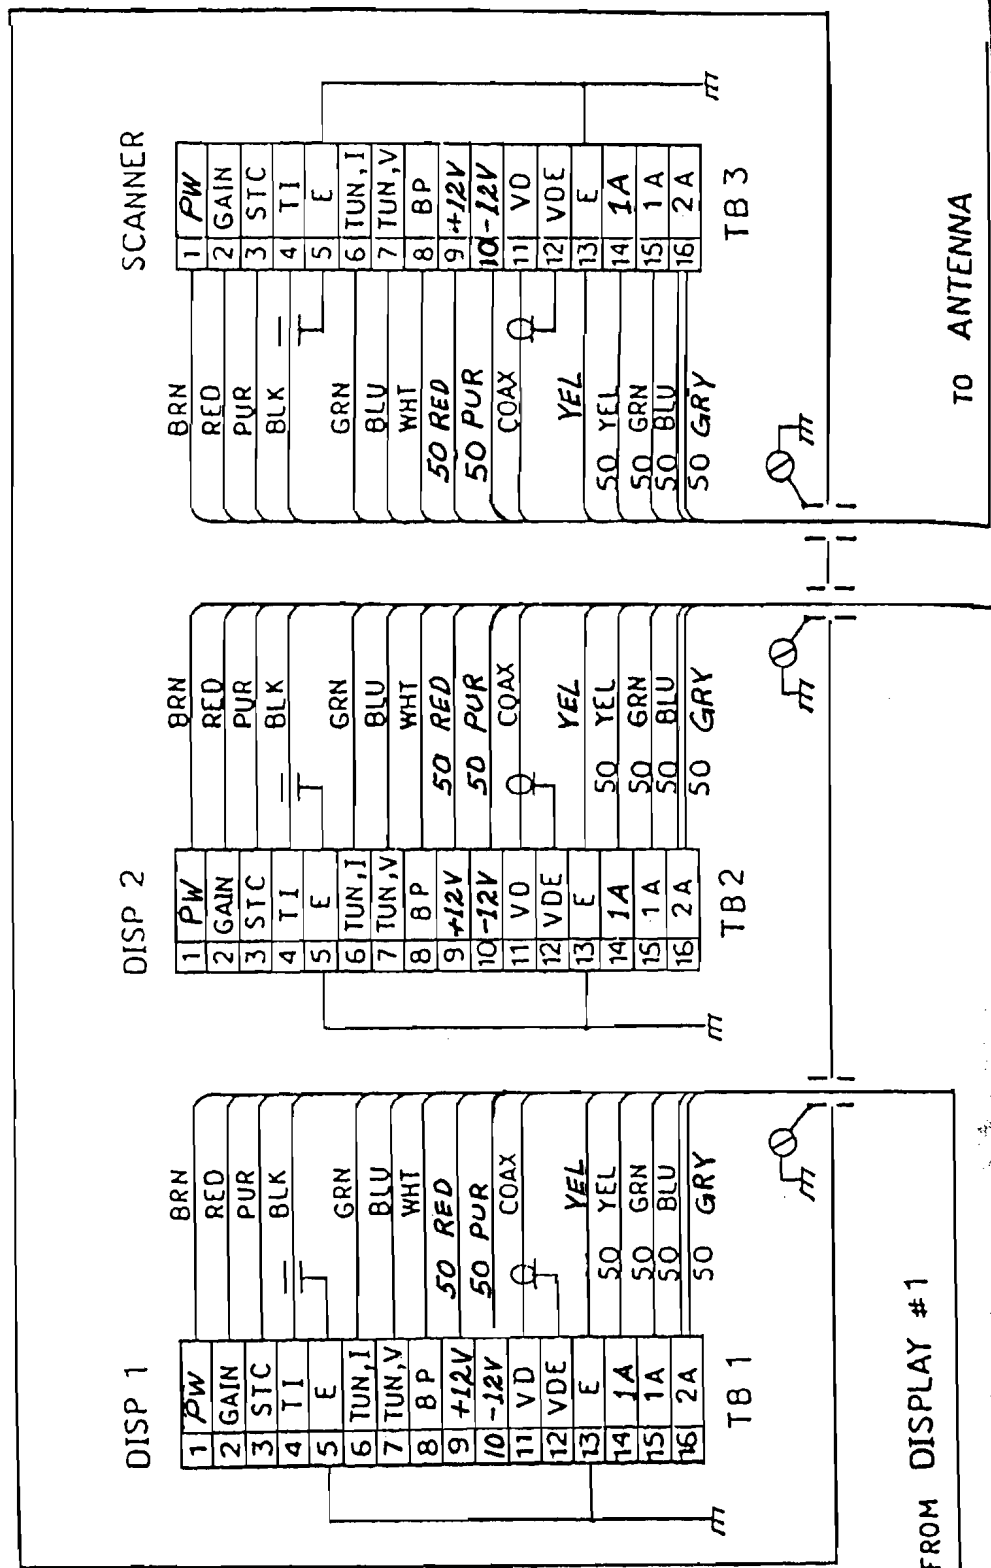

Fig. 2-23 INTERCONNECTIONS, DUAL STATION JUNCTION BOX
3. Terminate the supplied interconnect cable within the junction box and then connect the display ends of both cables to the two Display Units. See Fig. 2-23, (Page 2-34).